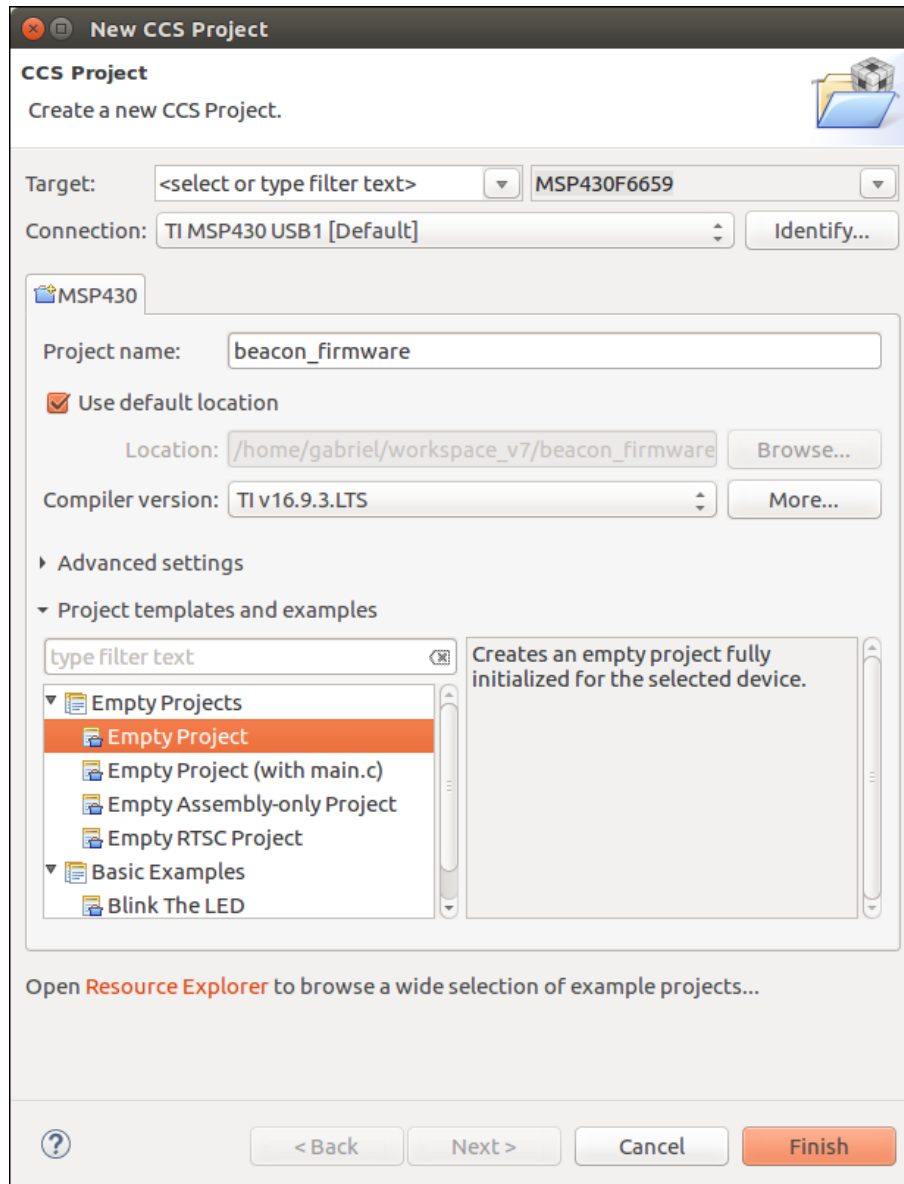

Figure B.1: New CCS project window.
2. The window from the figure B.1 will appear on the screen.